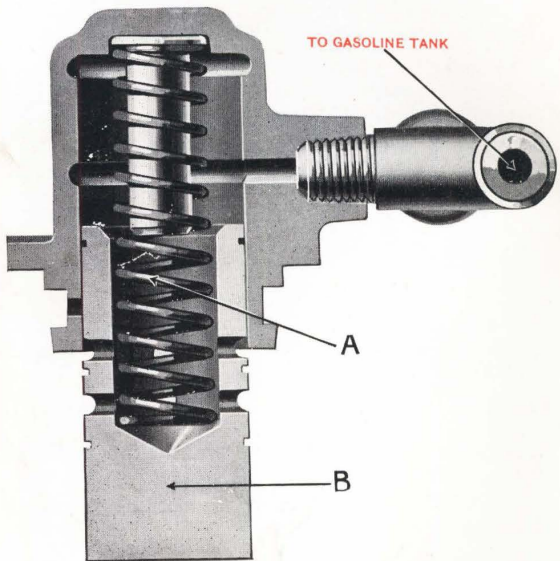

Fig. 7—Gasoline Pressure Pump
When the motor is running, by means of a gasoline pressure pump, operated from the cam shaft. (See Fig. 7, Page 26.)
(See Figure 7, Page 26, for sectional diagram.)
The pressure pump is attached to the forward end of the crank case on the left side. It is a simple two-cycle plunger pump and is operated by an eccentric on the cam shaft. As the cam shaft revolves a spring (A, Fig.7) forces down a plunger (B). This creates a vacuum in the pump, which is filled by air rushing in through a port. Continued revolution of the cam shaft drives the air out of the pump through two other ports, and so into the gasoline tank.